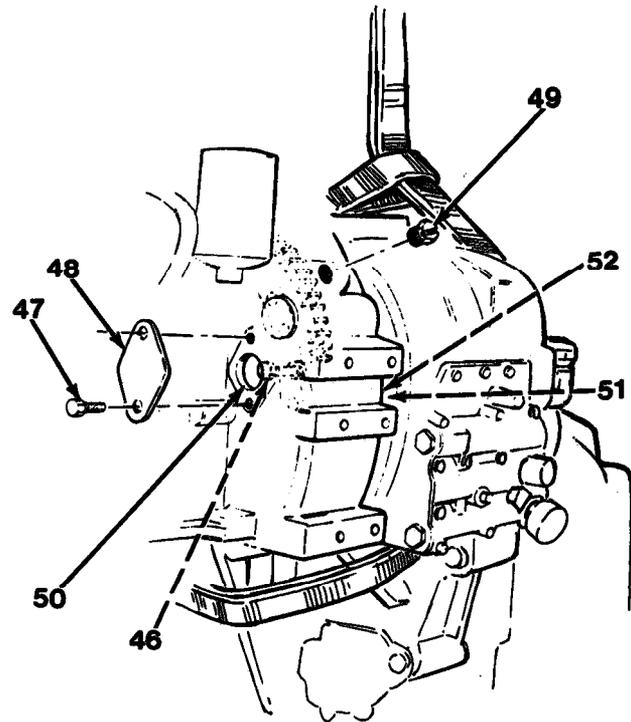

Figure 18-7
1. Engine flywheel is bolted to transmission converter drive plate with 12 capscrews (46). Access to these capscrews (46) is through engine side of flywheel housing. Remove capscrews (47), cover plate (48), and plug (49, Figure 18-7) on the right side of flywheel housing.
2. With a barring tool or large screwdriver, rotate ring gear through plug (49) access hole until each capscrew (46) is lined up with access hole (50). Use a 9/16 in. socket and remove 12 capscrews (46).